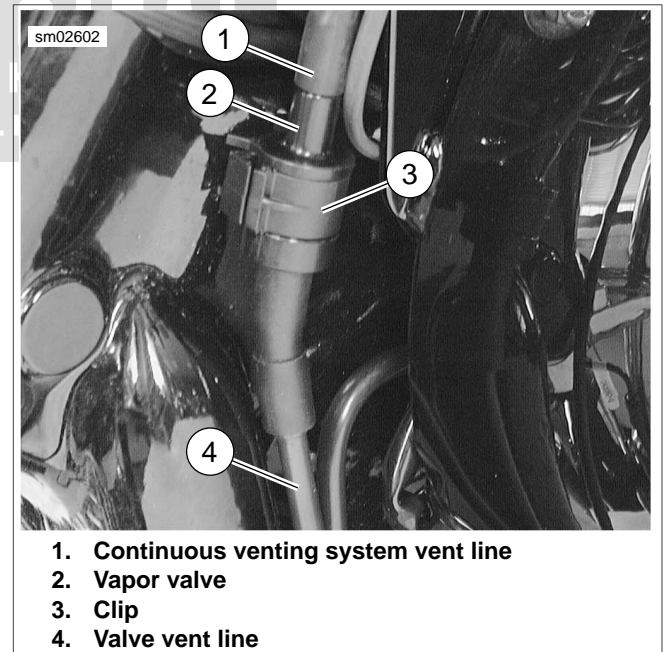

Figure 4-8. Vapor Valve Installation (Typical)
1. See Figure 4-8. Install continuous venting system vent line (9) to vapor valve (10).
See Figure 4-8. The vapor valve (2) is clipped to the frame member just ahead of the fuel tank. Mark the two hoses (1, 4) connected to the upper and lower fittings of the vapor valve before removing it from its clip (3). When installing the vapor valve, place the valve back into the clip with the long necked end at the top.